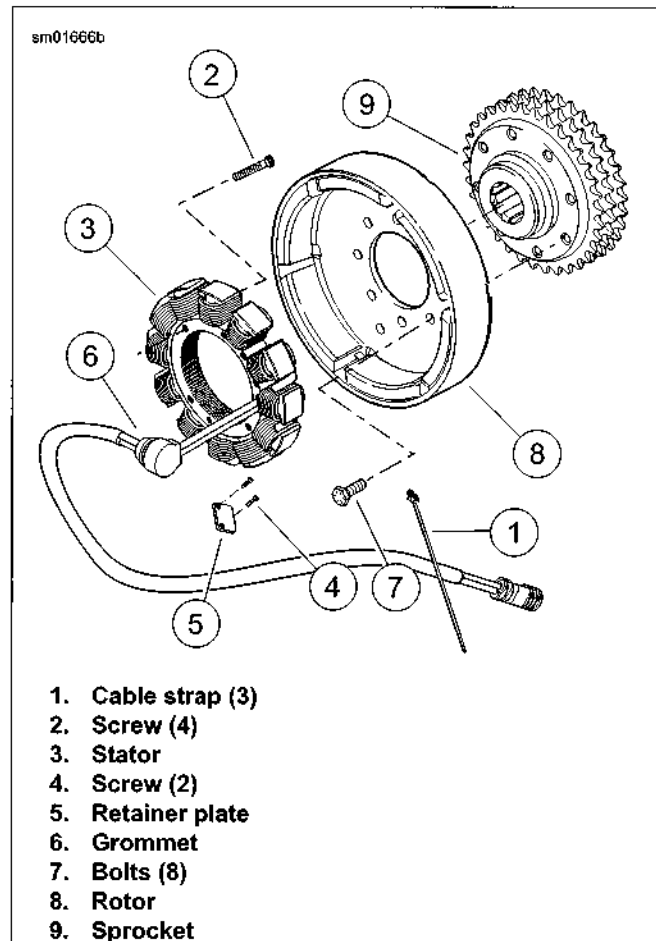

Figure 6-86. Alternator Components
2. See Figure 6-86. Remove cable straps (1) from stator harness.
4. Using a T-27 TORX driver, remove and discard screws (2) securing stator (3) to left crankcase half.
5. Remove two screws (4) and harness retainer plate (5).
6. Remove stator harness grommet (6) from left crankcase half.
1. See Figure 6-86. Remove bolts (7) securing alternator rotor (8) to engine sprocket (9).